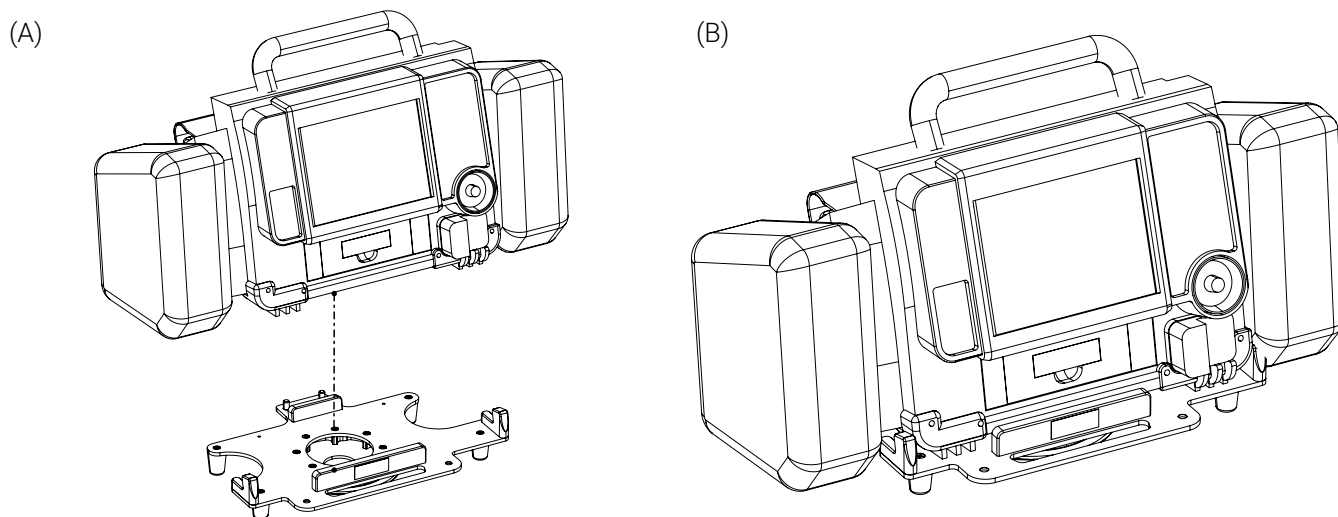

Figure 5: Installing the monitor/defibrillator in the bottom plate
2. Lift the LIFEPAK 15, using the handle and align the bottom edges of the monitor/defibrillator between the four (4) bumpers on the bottom plate (Figure 5 A).
3. Insert the monitor/defibrillator, in the bottom plate, until the monitor/defibrillator feet are flat on the bottom plate (Figure 5 B).